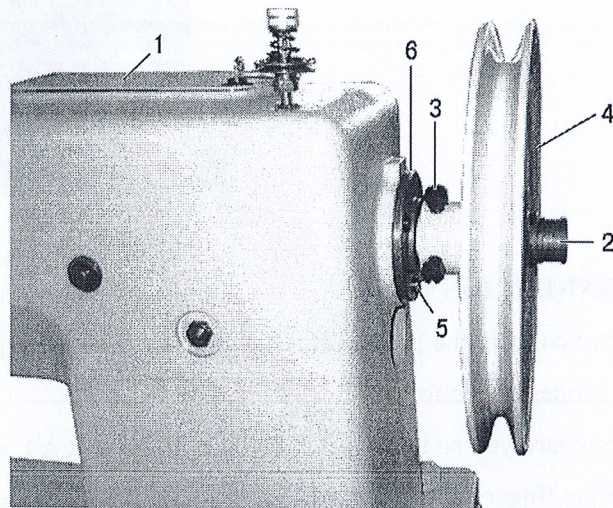

Fig.37
B. Replacement of the connection belt when damaged. (Figs. 37 & 38)
2. Slide the connection belt (A) off from lower and upper belt pulley.
3. Loosen the machine pulley adjustment screw (2) and two set-screws for the machine pulley (3), then remove the machine pulley.
4. Loosen the three screws in the arm shaft bushing (5) and remove the bushing (6).
5. Lift the belt up through the arm cap hole after removed the bushing (6) as far as possible and draw it out through the space normally occupied by the bushing.